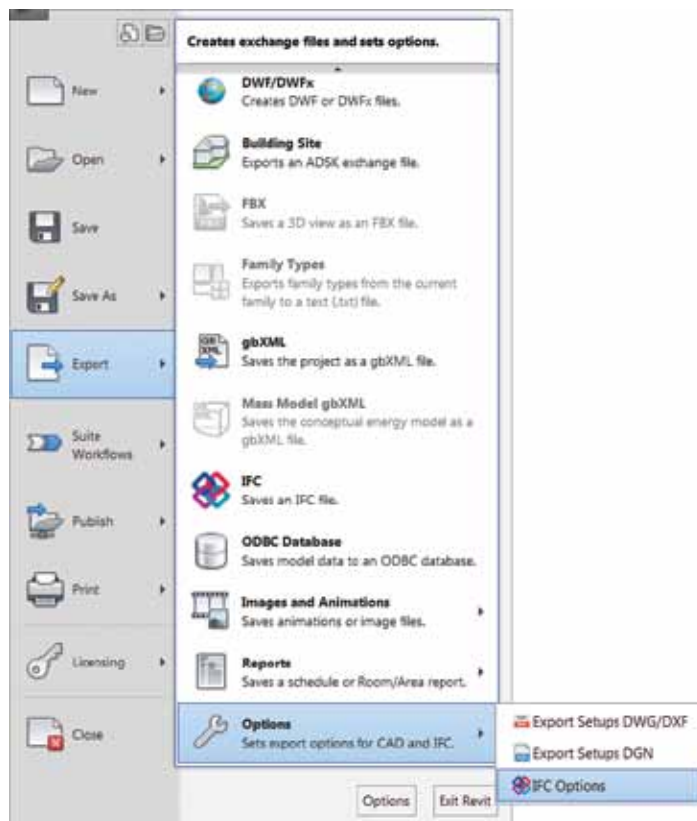

Figure 3
2. Create a custom export mapping table. How to do this? Open the standard AIA export mapping file you get upon import. Don't know where it is? Go to R > Export > Options > IFC Options (see Figure 3).